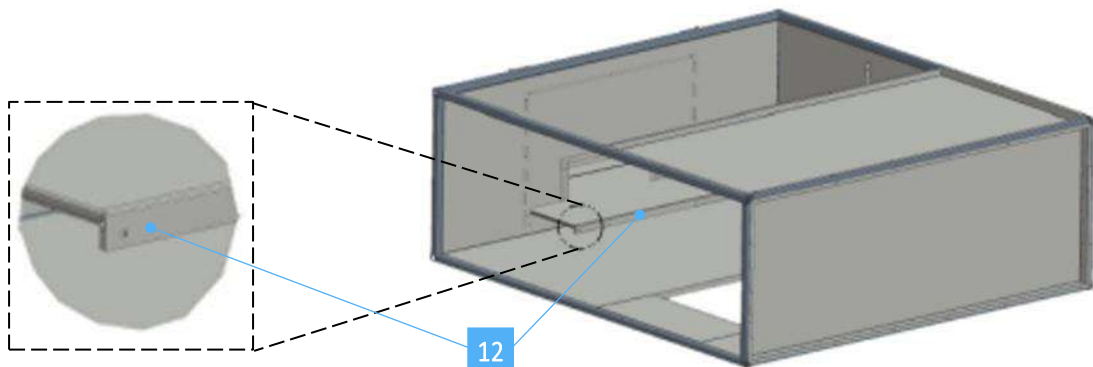

Fig. 14 *Locking the small mirror*
- 10 Insert the top panel [14] (PN 73-00057-01) inside the tubes and fix it using the supplied M4 self-tapping screws (figure 14).